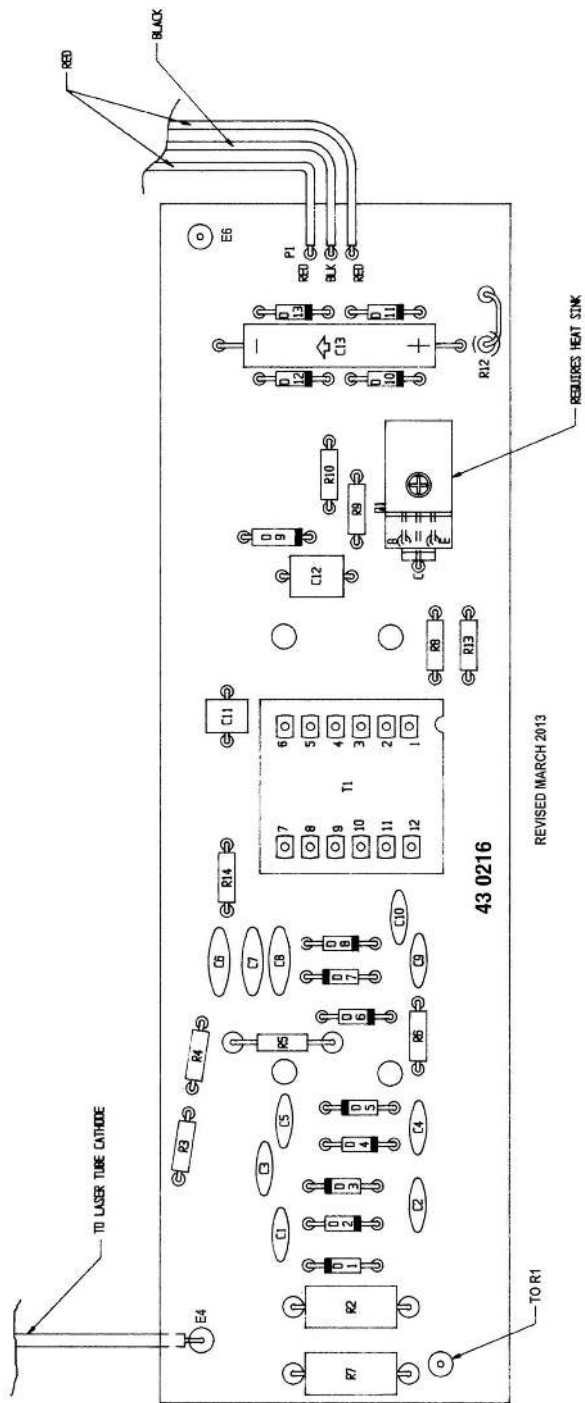
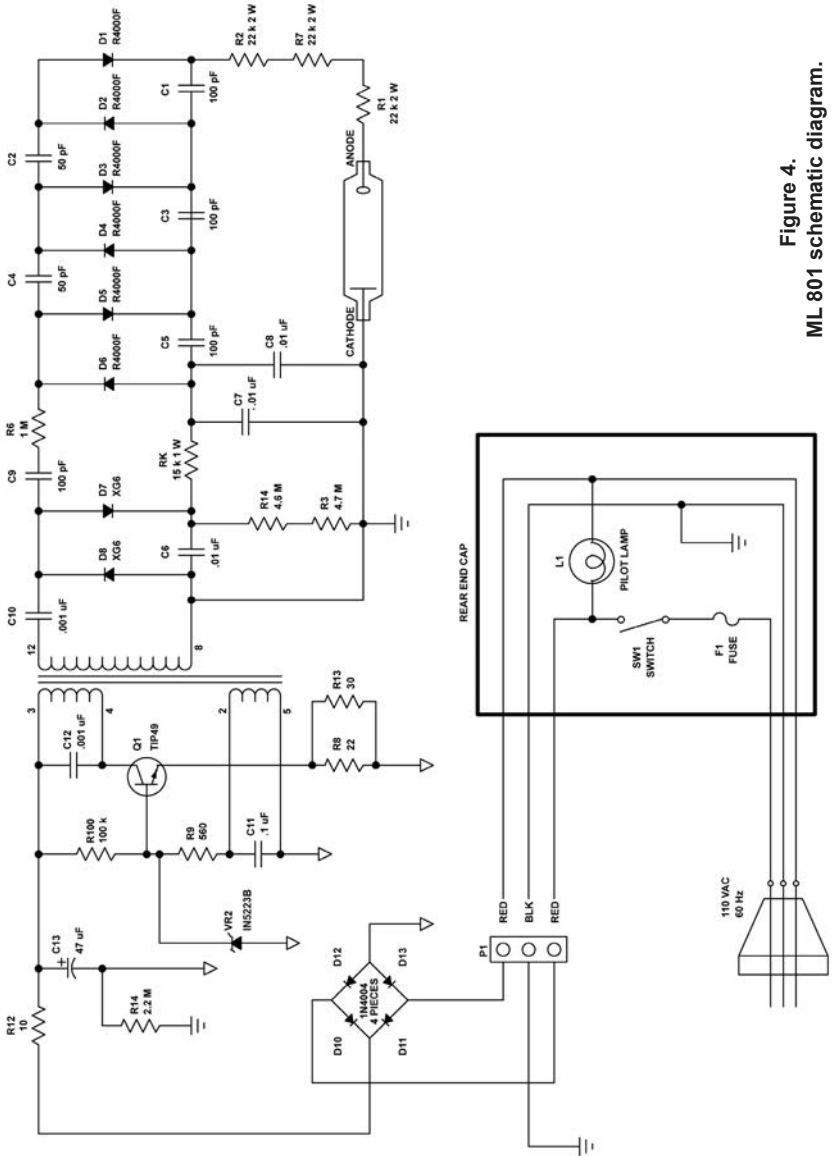

Figure 1. Printed circuit board assembly diagram.
Figure 4.
Follow the instructions below to mount the 13 diodes (D1 through D13) on the printed circuit board. Refer to the printed circuit assembly diagram (Figure 1) for their correct positions.
There are 12 resistors to be mounted on the printed circuit board. R1 is mounted to the laser tube and will be installed later. Follow the instructions below and refer to Figure 1 for placement locations.
Refer to the assembly diagram (Figure 1) and the instructions below to mount the 13 capacitors on the printed circuit board.
Refer to Figure 1 and follow the instructions below to mount transformer T1 on the printed circuit board.
1. Check that diodes, resistors, capacitors and other electrical parts are mounted in the correct positions of the printed circuit board. Refer to both the assembly diagram (Figure 1) and the schematic diagram (Figure 4) while checking each part.